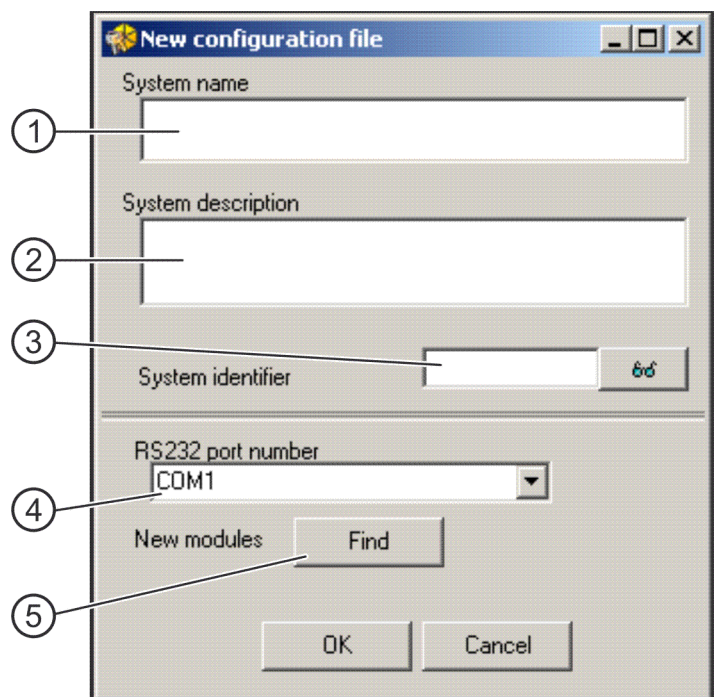

Fig. 21. Window enabling parameters of a new configuration file to be determined.
4. Create a configuration file in which all information related to the module (system consisting of several modules) served by the program will be saved. For this purpose, open the FILE menu and select the NEW item. The window shown on Fig. 21. will open. You have to fill in the SYSTEM NAME and SYSTEM IDENTIFIER fields and select the computer port through which communication with the module(s) will be effected. Next, click on the FIND button (the module or modules connected to the indicated computer port will be found by the program itself) or directly on the OK button.